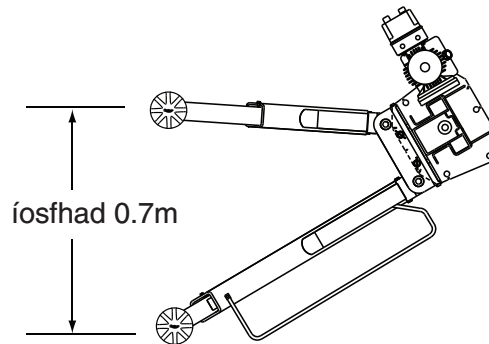

Fig. 2
- Minimum distance between fore & aft pickup points is 0.7m (27-1/2"), See Fig. 2.